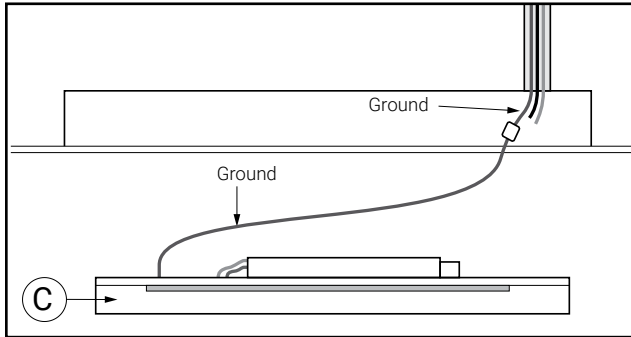

Figure 12.
12. **Situation 2** Grounding: Connect to the incoming ground lead from conduit (Fig. 12).